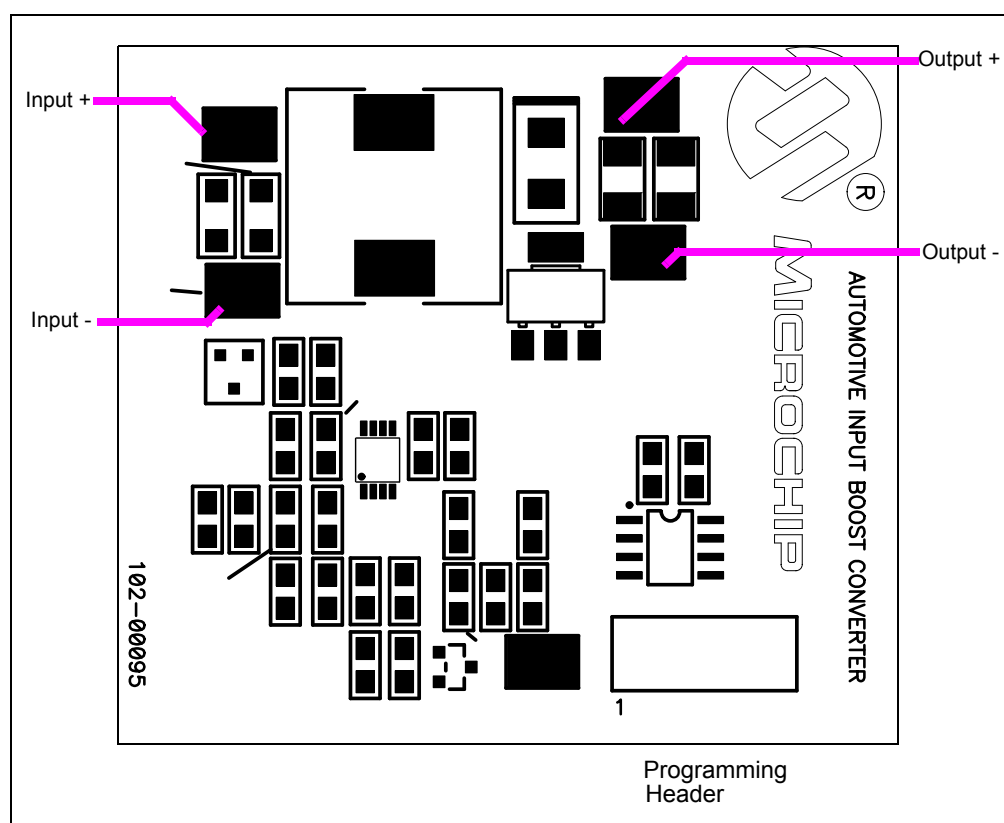

FIGURE 2-1: Set-up Configuration Diagram.
2. Connect the negative or return side (-) of the input source to TP2. Refer to Figure 2-1. The input voltage source should be limited to the 0V to +18V range. For normal operation, the input voltage should be between +9V to +18V. The input voltage must not exceed an absolute maximum of +20V.